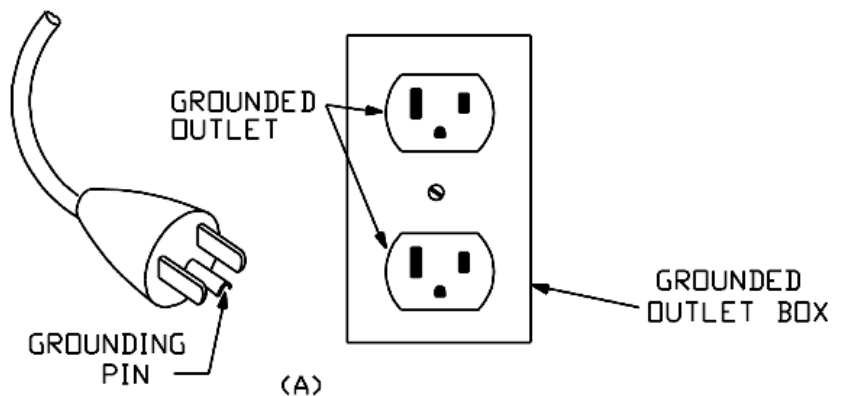

Figure 1: Grounded Outlet and Plug
This appliance is for use on a nominal 120-volt circuit and has a grounding attachment plug that looks like the plug illustrated in Figure 1. Make sure that the appliance is connected to an outlet having the same configuration as the plug. No adaptor should be used with this appliance.
2. Complete warnings for hazardous materials referenced in this manual are identified by use of an icon, nomenclature and specification and a numeric identifier. The numeric identifiers have been assigned to the hazardous materials in the order of their appearance in the manual. Each hazardous material is assigned only one numeric identifier. Repeated use of a specific hazardous material references the numeric identifier assigned at its initial appearance. The approved icons and their application are in Figure 1, Icons for Hazardous Materials.